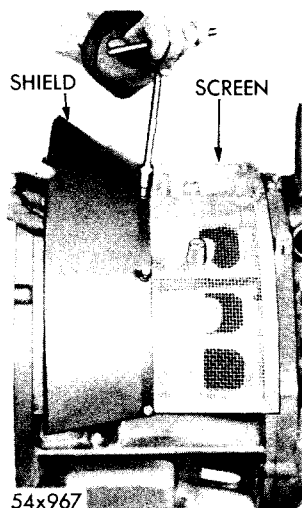

Fig. 31—Attaching the Shield to the Torque Converter Housing
(3) Install the screen and dust shield after the bracket is removed, as shown in Figure 31.